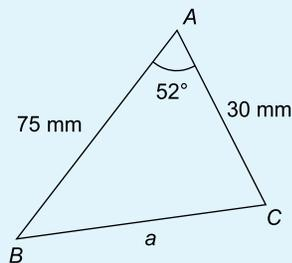

Figure 1.10
8. In the triangle ABC shown in Figure 1.10, side 'a' is equal to:
9. In the triangle ABC shown in Figure 1.10, angle B is equal to: